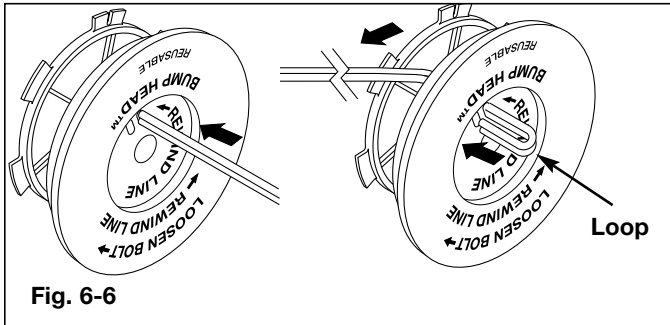

Fig. 6-6
8. Take approximately 20 feet (6.1 m) of new trimming line. Insert one end of the line through one of the two holes in the inner reel (Fig. 6-6). Pull the line through the inner reel until only about 4 inches is left out.
9. Insert the end of the line into the open hole in the inner reel and pull the line tight to make the loop as small as possible (Fig. 6-6).